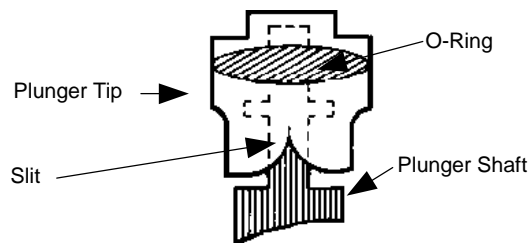

Figure 5-20. Syringe Tip O-Ring
2. Make a small, vertical cut in the rubber tip as shown in **Figure 5-20**. Take care not to cut near the position of the inner O-Ring.